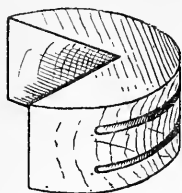

Fig. 9. — Corner Block for Picture-frame Cramp
**Gluing and Cramping.**—The mitred members are now to be joined together with glue and nails, and I will explain just one way, and that the simplest, in which this may be done. Four corner blocks (Fig. 9) for each frame will be wanted. They can be cut with a turn or compass saw from thick wood, or, more easily, sawn off from a circular piece of stuff 2 in. or more in diameter. Cut out the square notch to receive the frame corner, and cut one or two